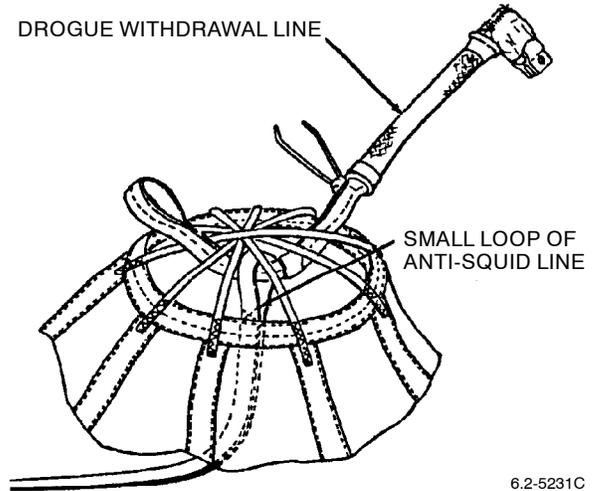

Figure 18. Holding Five Controller Drogue Apex Lines
c. Hold five controller drogue apex lines centrally to form two clear diametrically opposite openings. Pass loop end of drogue withdrawal line in one side of centrally held apex lines, thru small loop of anti-squid line and out other side of apex lines (Figure 18).